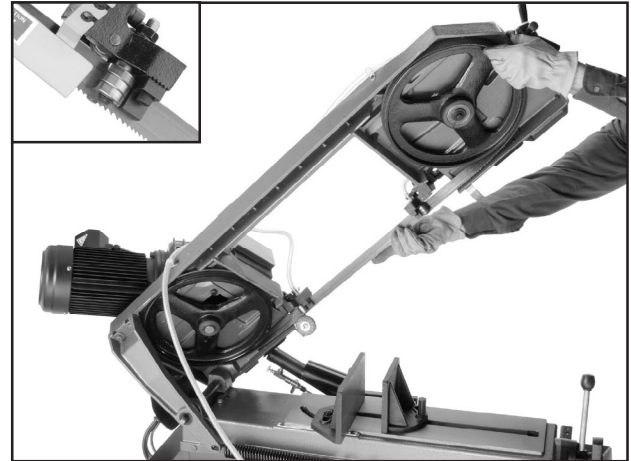

Figure 39. Typical blade installation.
5. Install the new blade through both blade guide bearings, as shown in **Figure 39**, and around the bottom wheel.
Note: It is sometimes possible to flip the blade inside out, in which case the blade will be installed in the wrong direction. Check to make sure the blade teeth are facing toward the workpiece, as shown in **Figure 39**, after mounting on the bandsaw. Some blades will have a directional arrow as a guide.